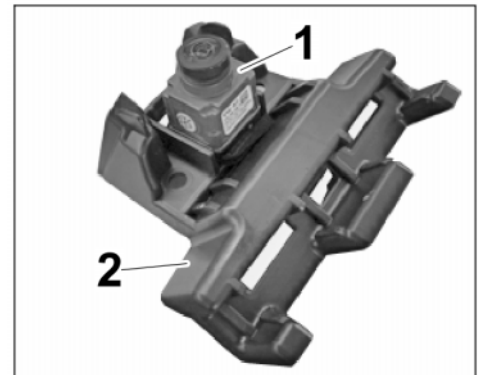

Figure 28
3.7.1 Remove front camera from (standard) front apron and position it in front camera holder (⇒ *Figure 28*).
3.7.2 Install camera cover on front camera holder. The locking lug must engage securely (⇒ *Figure 28*).